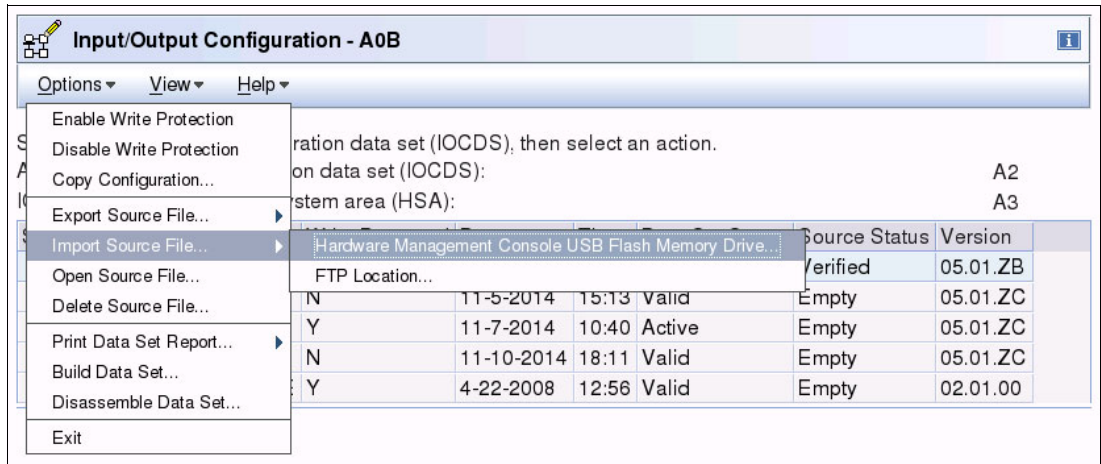

Figure 6-131 HMC - SAIOCP: import source file
12. Click **Options** → **Import Source File** → **Hardware Management Console USB Flash Memory Drive** (Figure 6-131).